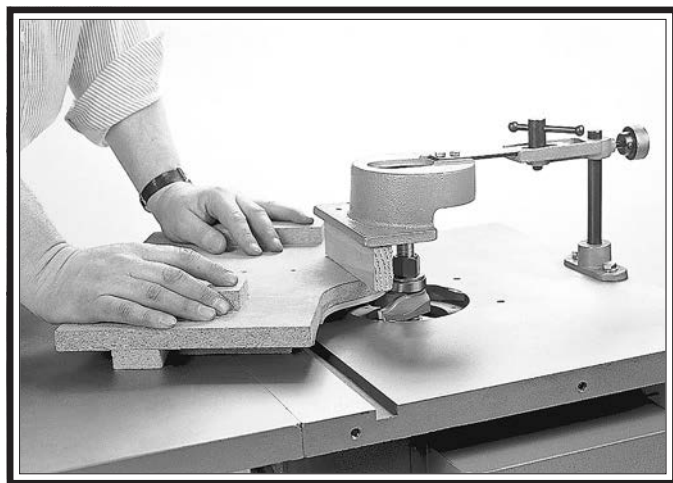
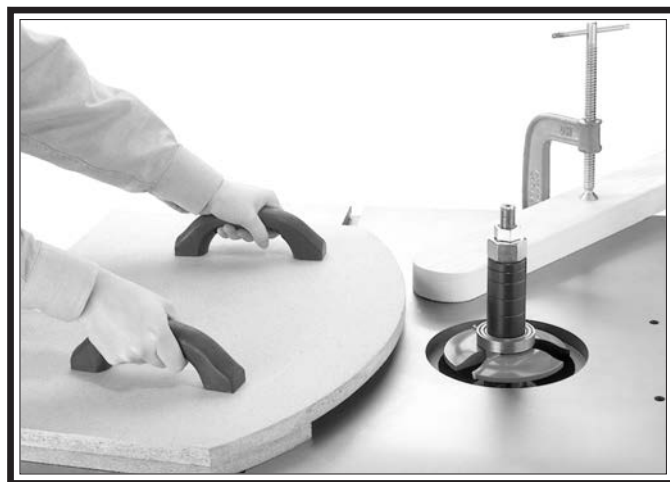

Figure 57. Example of using guard when doing freehand work (portion of guard removed for clarity).
Figure 58. Example of using starting pin substitute when needed (guard removed for clarity).
7. Use some type of hold-down fixture and guard when doing freehand work (see **Figure 57**).
Sometimes the starting pin will not be in the most advantageous position. If so, firmly clamp a board in the desired position to act as a starting pin (see **Figure 58**). Some type of pivot point must be used. Notice in **Figures 57–58** the operator is not exposed to the cutting edge of the cutter. Cutters are removing material from the bottom of the workpiece.